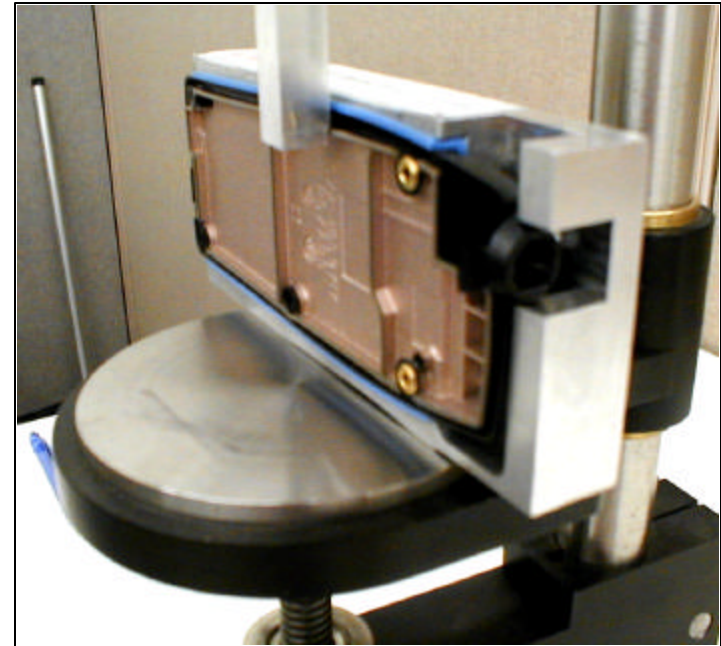

Fig. 3A
2. Turn the hand-wheel clockwise until the probe makes contact to the gasket from the side as shown in **Fig. 3A**.